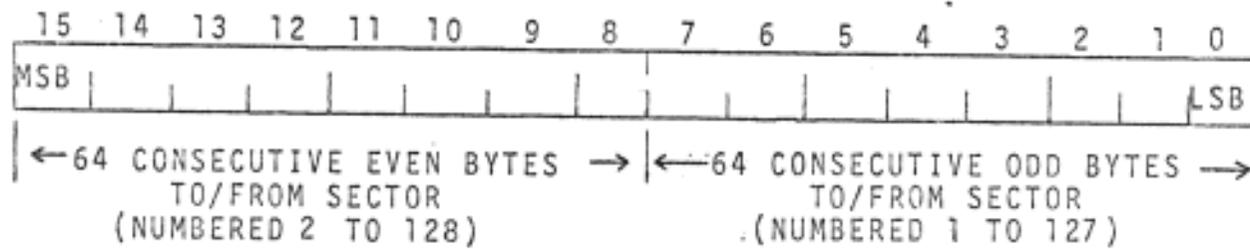

FIGURE 2
6.3 QX Data Buffer (QXDB) - 177002₈ (see figure 2)